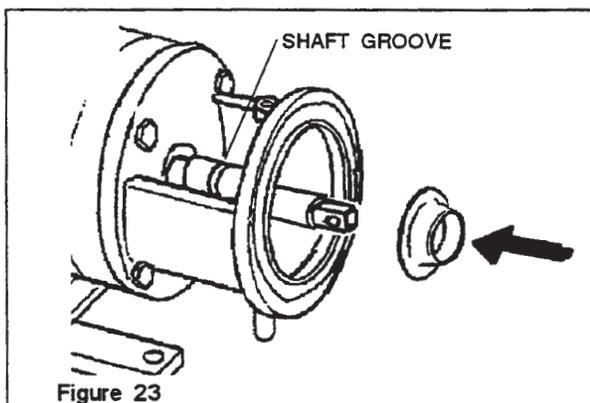

Figure 23
5. Slide the deflector (large diameter end first) onto the shaft until it seats in the shaft groove. (Figure 23)